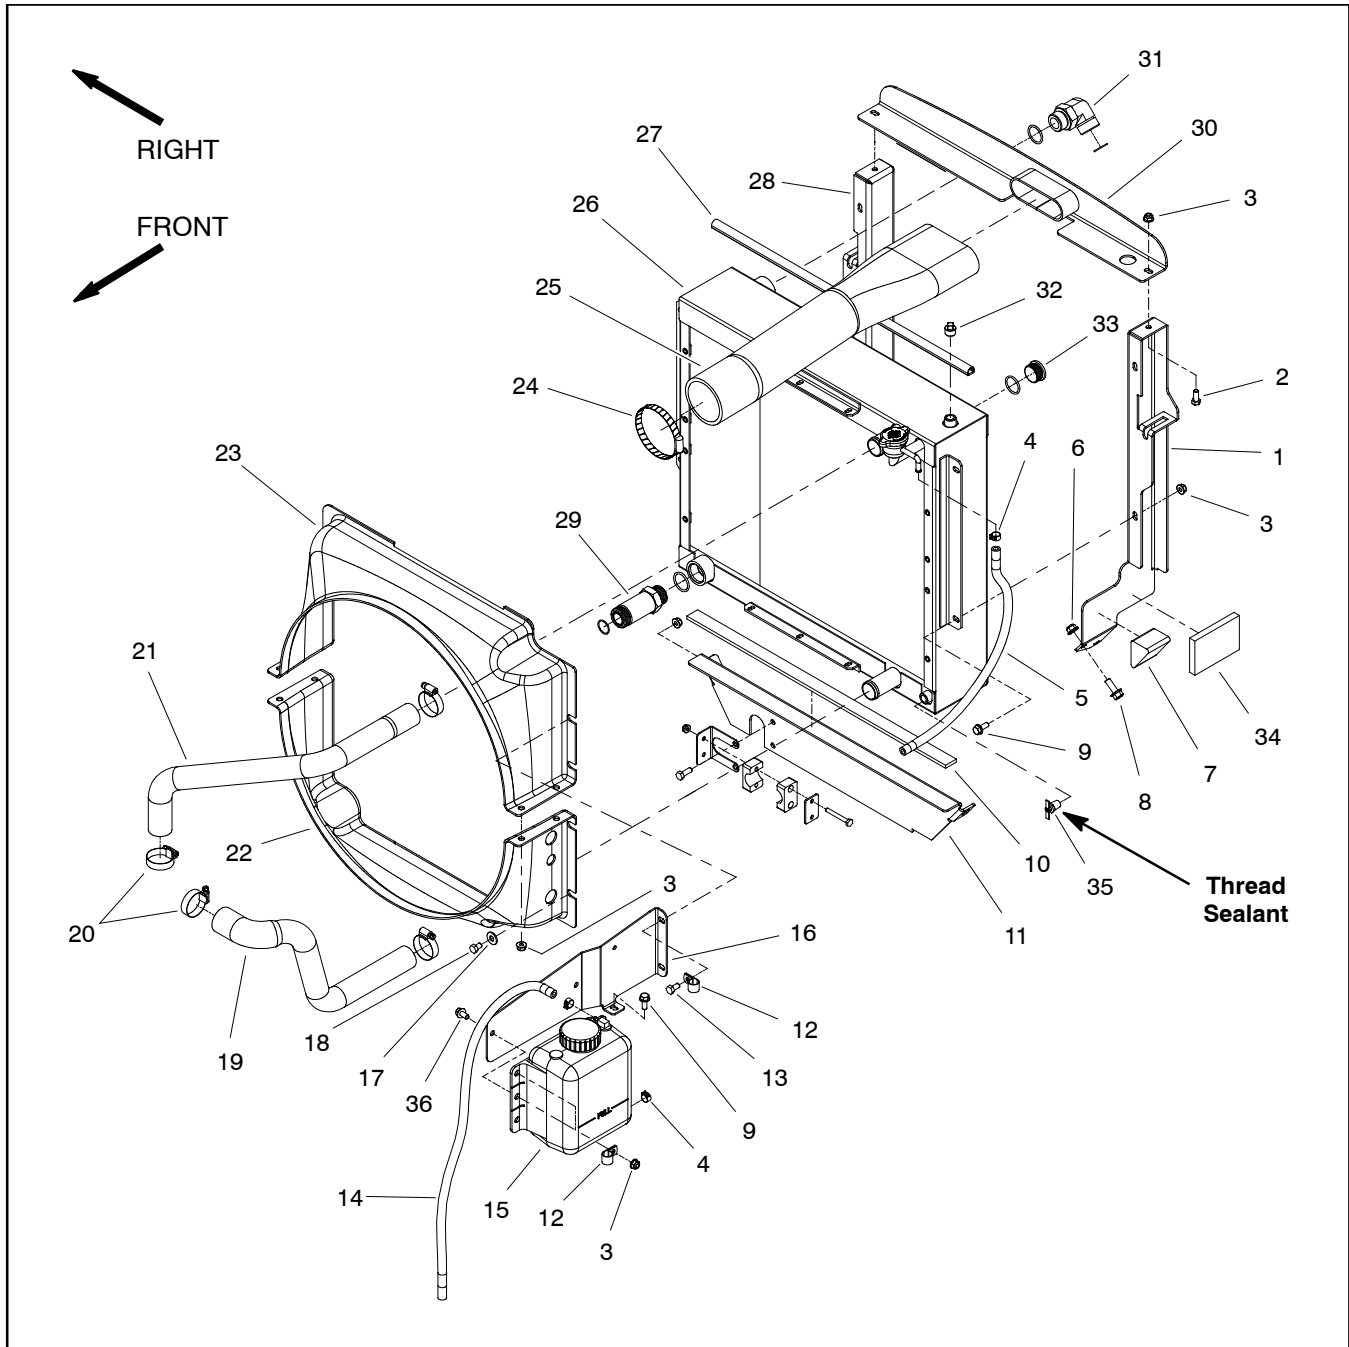
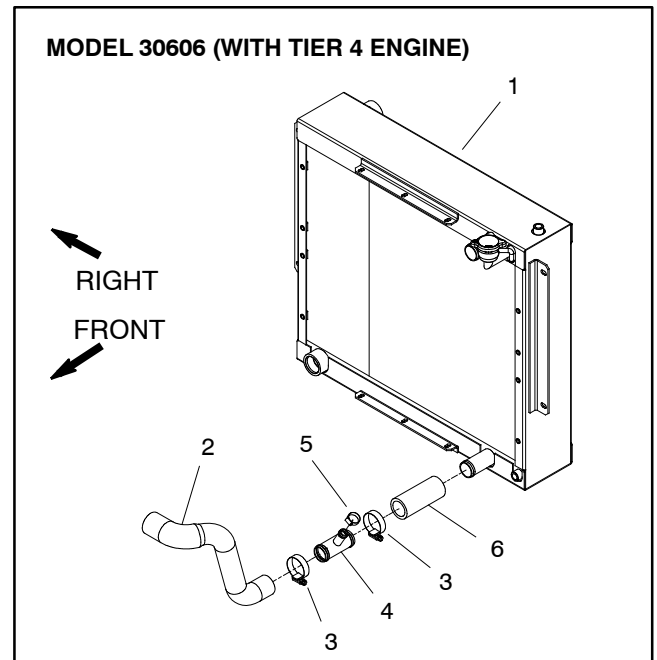
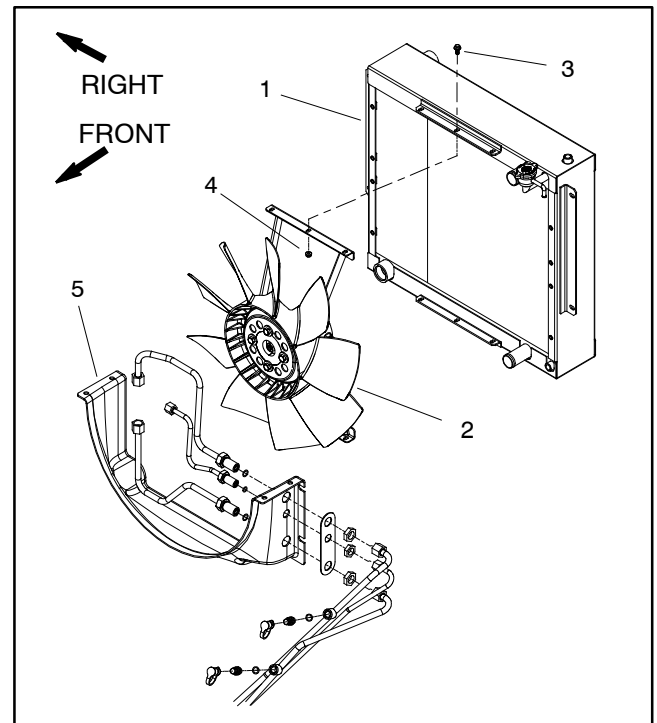
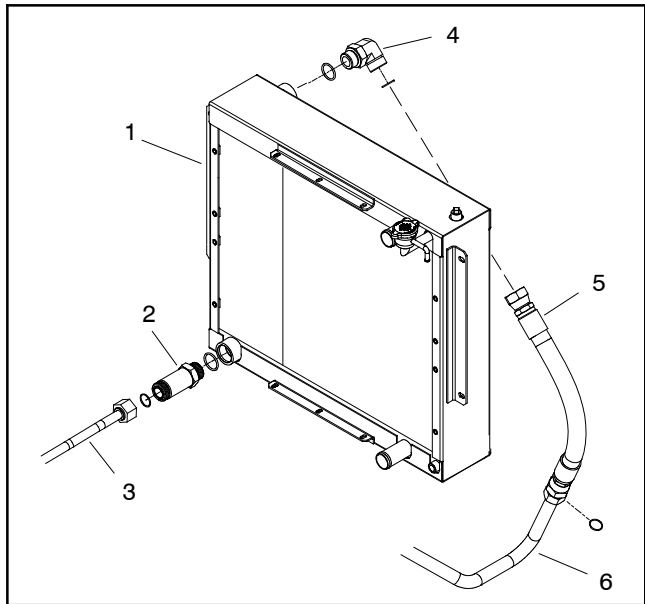

Figure 11
Figure 12
Figure 13
Figure 14
Removal (Fig. 11)
3. Disconnect radiator hoses from the radiator. Groundsmaster 4110-D machines with a Tier 4 compliant engine (model 30606) use the lower radiator hose assembly shown in Figure 12.
4. Remove air cleaner inlet hose (item 25).
6. Thoroughly clean hydraulic lines at lower radiator shroud (Fig. 13) and oil cooler ports (Fig. 14). Disconnect hydraulic lines and put caps or plugs on lines to prevent contamination. Label disconnected hydraulic lines for proper installation.
8. Remove flange head screws (item 8) and flange nuts (item 6) that secure the radiator supports (items 1 and 28) to the frame.
10. Disassemble radiator/oil cooler assembly as needed using Figures 11 and 13 as guides.
11. If necessary, remove hydraulic fittings (items 29 and 31) from oil cooler and discard O-rings.
Installation (Fig. 11)
1. Inspect seals (items 7, 10, 27 and 34) around radiator location for wear or damage. Replace seals if necessary.
3. If hydraulic fittings (items 29 and 31) were removed from oil cooler, lubricate and place new O-rings onto fittings. Install fittings into port openings and tighten fittings (see Hydraulic Fitting Installation in the General Information section of Chapter 4 - Hydraulic System).
4. Assemble radiator/oil cooler using Figures 11 and 13 as guides.
6. Secure radiator supports (items 1 and 28) to the frame with flange head screws (item 8) and flange nuts (item 6).
7. Connect hydraulic lines to fittings in oil cooler ports (Fig. 14) and at lower radiator shroud (Fig. 13) (see Hydraulic Hose and Tube Installation in the General Information section of Chapter 4 - Hydraulic System).
9. Install and secure air cleaner inlet hose (item 25).